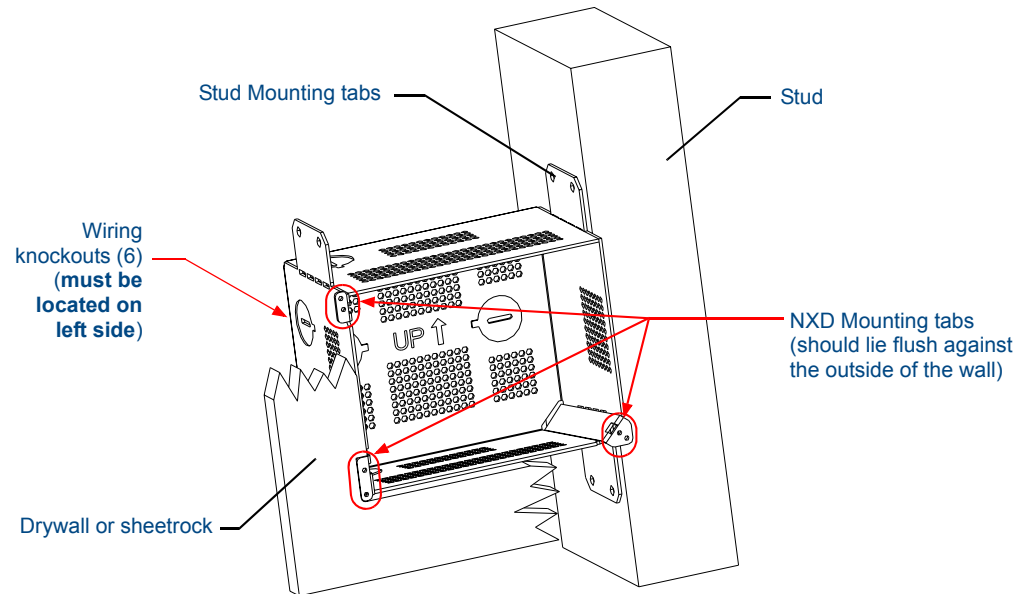

FIG. 16 CB-TP5 rough-in box components
The CB-TP5 is an optional metallic box that is secured onto a stud/beam in a **pre-wall** setting (*where no walls are present*). Installation procedures and configurations can vary depending on the installation environment. This section describes the installation procedures for the most common installation scenario. The most important thing to remember when mounting this rough-in box is that the NXD-CV5 Mounting Tabs must lie flush against the outside of the sheetrock (FIG. 16).
2. Fasten the CB-TP5 rough-in box to the stud through the holes on the right Stud Mounting tabs (FIG. 16), using either nails or screws.
3. Remove the wiring knockouts from the left side of the rough-in box (CB-TP5) (FIG. 16) to accommodate the cables being threaded through to the NXD touch panel.